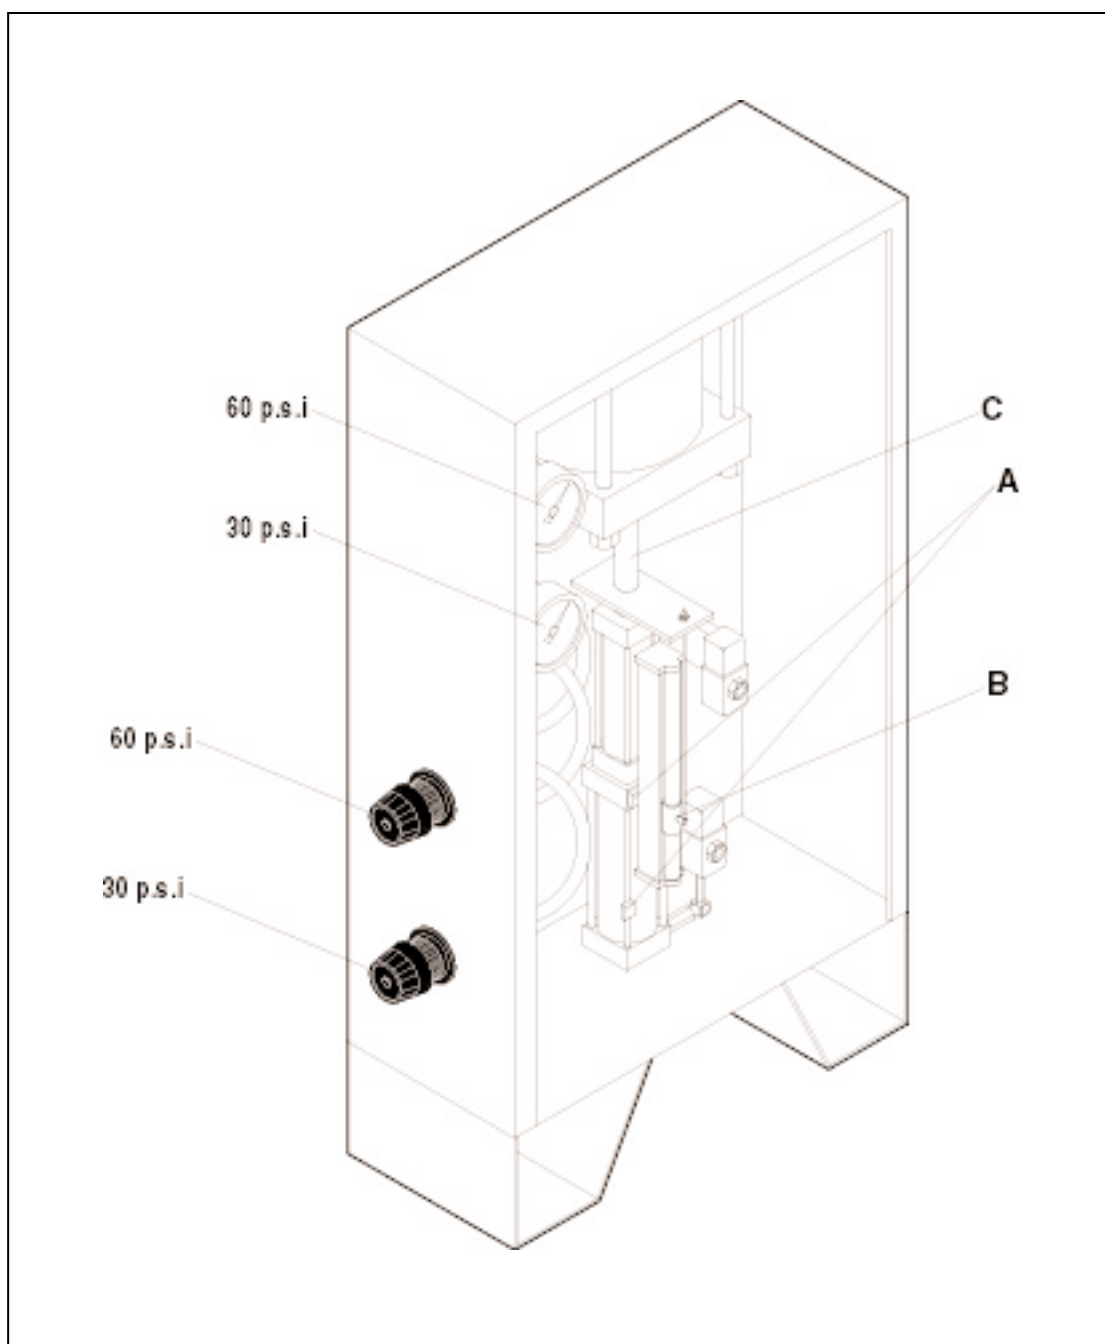

Figure 12.2 SMARTPAC PANEL
- 12.2.9 Set air pressure for rod end of cylinder to 60 PSI and Cap End of cylinder to 30 PSI (see figure 12.2).
To adjust transducer (see figure 12.2):